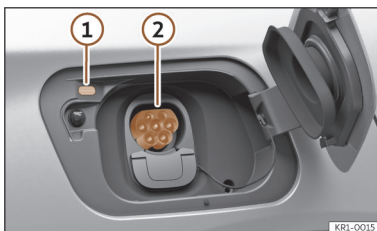

Fig. 56 Behind the battery charging cover on the rear right-hand side: Charging socket
>>> **Fig. 56**
- Plug the straight charging connector into the charging socket >>> **Fig. 56 ②**. Check that the charging connector is fully plugged in.
The LED (charging process indicator) of the charging socket ① flashes or flashes white >>> **Fig. 56**, >>> page 80.